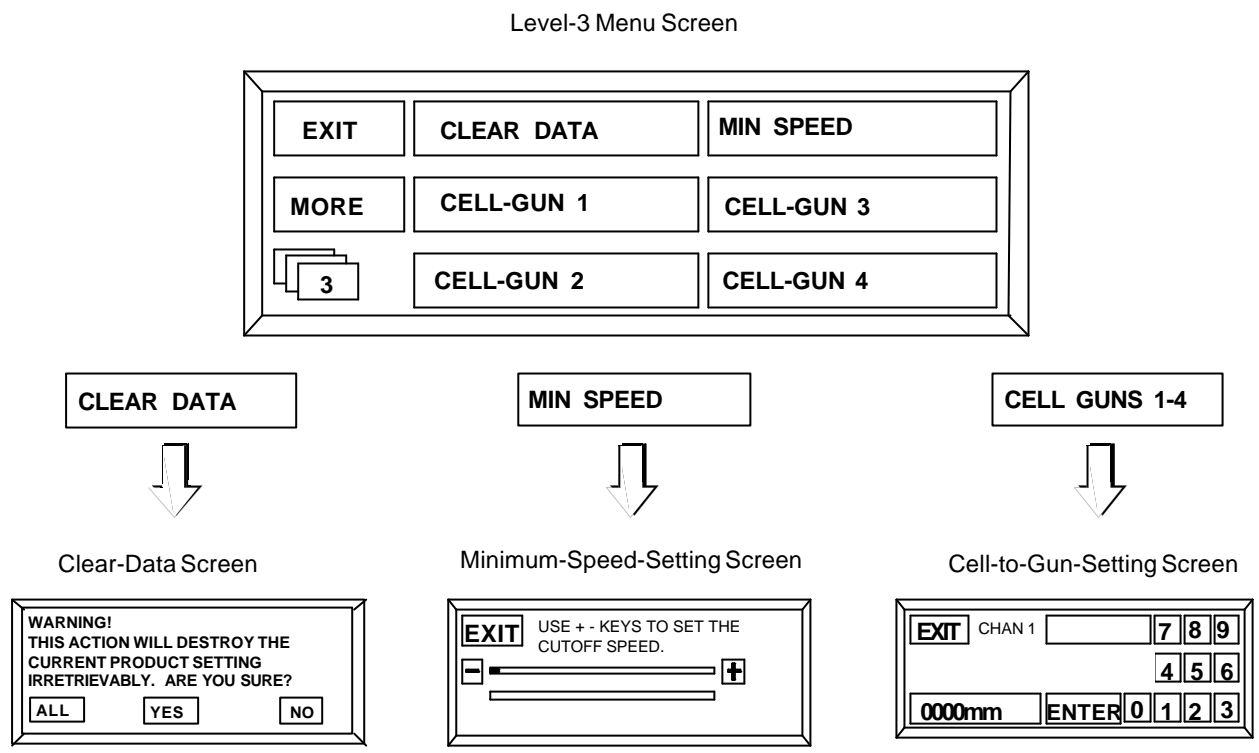

Figure 19. Level-3 Menu Screens and Related Screens
The level-3 menu screen displays when the “MORE” button on the level-2 menu screen is pressed (Figure 19). The small box with the numeral 3 indicates that this is the level-3 menu screen. The function of each button is as follows:
- Level-3 menu screens—Figure 19 (page 34)